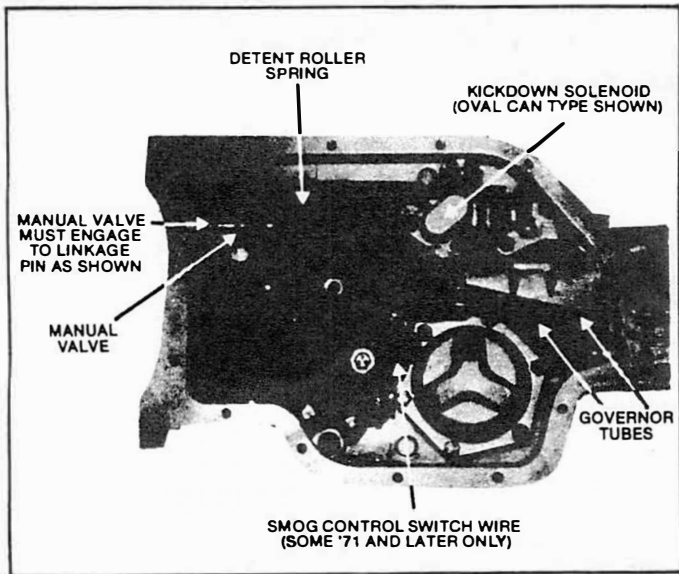
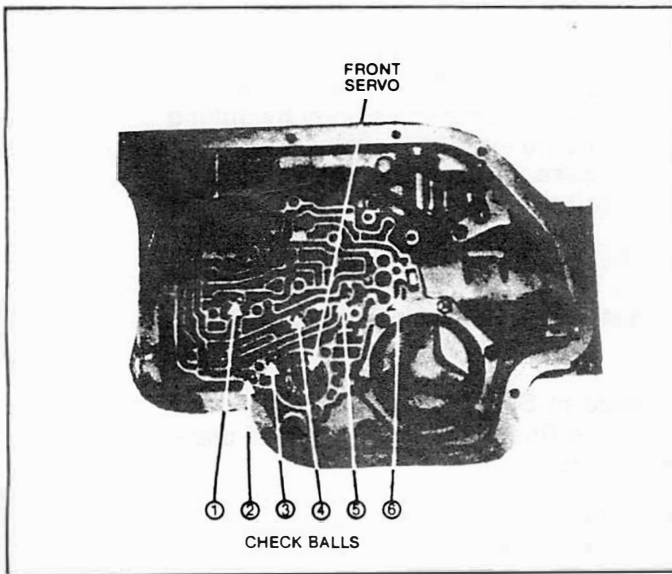

Figure 1
Figure 2
1. Remove oil pan bolts (13), oil pan and pan gasket. Discard gasket.
3. Remove retaining bolt and detent roller spring assembly from valve body (see figure 1). Remove all valve body bolts except one. Some '71 and later models have a white wire connected to the valve body. Disconnect it and let it hang free. Carefully remove last valve body bolt while holding valve body in place. Remove valve body by pulling down on valve body and governor tubes. Be careful not to let the manual valve fall out of the valve body. If the front servo falls out of the case, reinstall it as follows, using grease to hold it in place: spring, spring retainer, shaft and clip, piston.
4. Remove the two bolts holding the kickdown solenoid and separator plate in place (see figure 1). Carefully remove the separator plate being very careful not to lose the 6 check balls (see figure 2). Discard valve body gaskets and solenoid gasket if there was one.
**HEAVY DUTY:** Install 6 check balls, one in each location 1-6 (see figure 2).
**STREET AND STRIP:** Install 3 check balls, one in each location 1, 5, and 6 only (see figure 2).
9. Place lower valve body gasket against separator plate using vaseline to hold it in place. Install governor tubes into valve body. Be sure the manual valve is in the valve body correctly. Install valve body being sure governor tubes engage properly into case. Be sure manual valve engages properly to shift linkage (see figure 1). Push up on valve body and governor tubes until valve body is fully installed.
10. Install all valve body bolts finger tight. Install detent roller spring and bolt being sure the detent roller is in the correct position (see figure 1). Tighten all valve body bolts and two kickdown solenoid bolts to 8 ft. lbs. Check that the shifter moves freely.